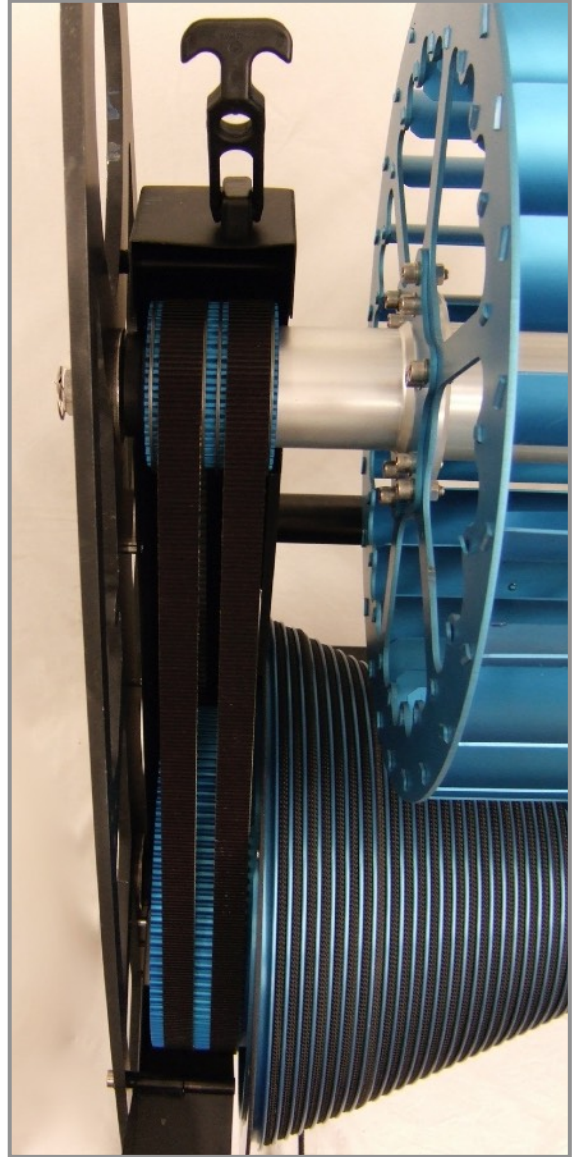

Figure 8
3. The timing belts and pulleys can be inspected while the belt guard hangs freely (figure 8).